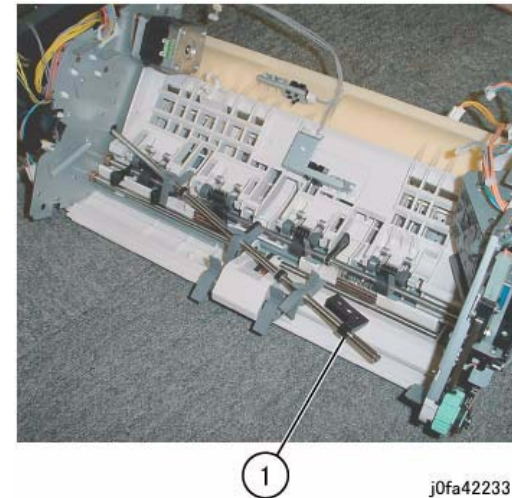

Figure 5 Removing the Main Paddle Shaft Assembly
9. Remove the Main Paddle Shaft Assembly (Figure 5):